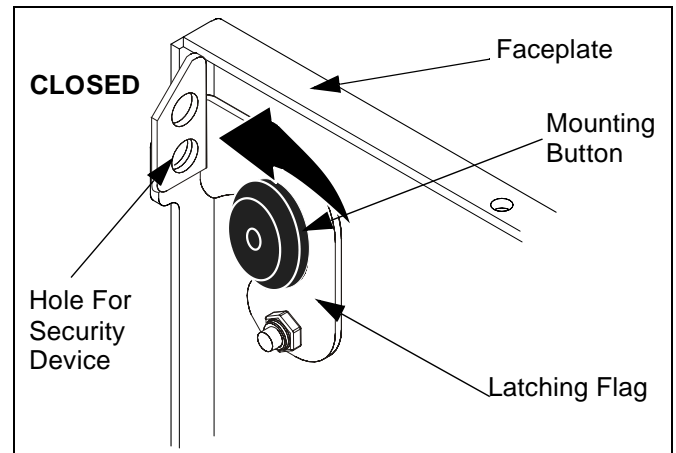

Figure 7: Close Latching Flag
- Place four latching flags in the "Closed" position and properly seated around mounting button. (see Figure 7)
NOTE: The latching flag and faceplate provide for a Padlock, or similar device, to be used to lock the display to the mount. (see Figure 7)
- If no locking device is use, install zip tie provided through latching flag and security hole to keep flags in CLOSED position. (see Figure 7)